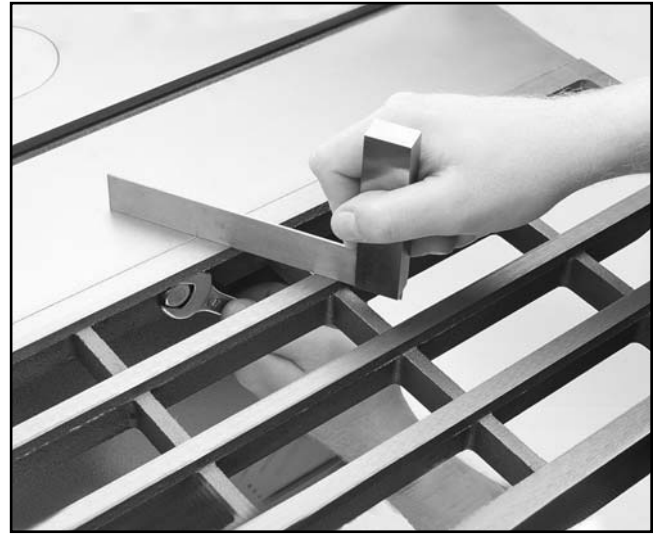

Figure 23. Checking table to wing alignment.
4. Raise or lower the rear of the extension wing until the middle of the wing is flush with the table top and tighten the middle bolt as shown in **Figure 23**.